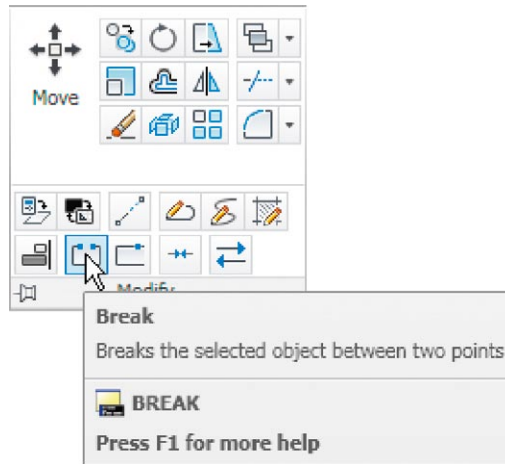

Fig. 5.35 The **Break** tool icon from the **Home/Modify** panel
2. Call **Break** – either *click* on its tool icon in the **Home/Modify** panel (Fig. 5.35), *click* **Break** in the **Modify** drop-down menu or *enter* **br** or **break** at the command line, which shows: